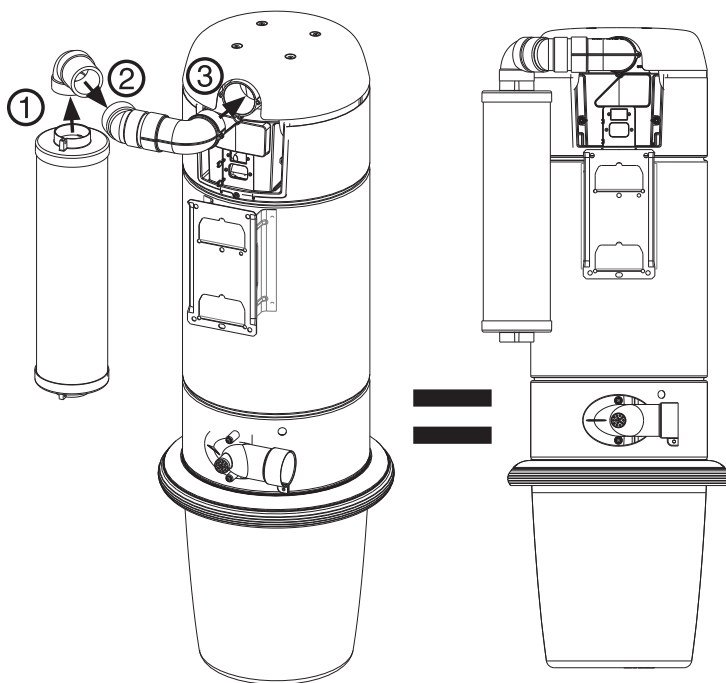

Figure 5
1. To install the muffler on the power unit, connect one end of the short 90° elbow to the muffler as indicated in Figure 5.
2. Glue the opposite end of the short 90° elbow to the WIDE open end of the long pipe adaptor. Before connecting the short 90° elbows and long pipe adaptor, confirm the direction of the intake flange located on the bottom, back of the power unit. Ensure the muffler is located on the opposite, OPEN end, of the intake flange as illustrated in Figure 5. Otherwise, the muffler will interfere with the pipe intake.